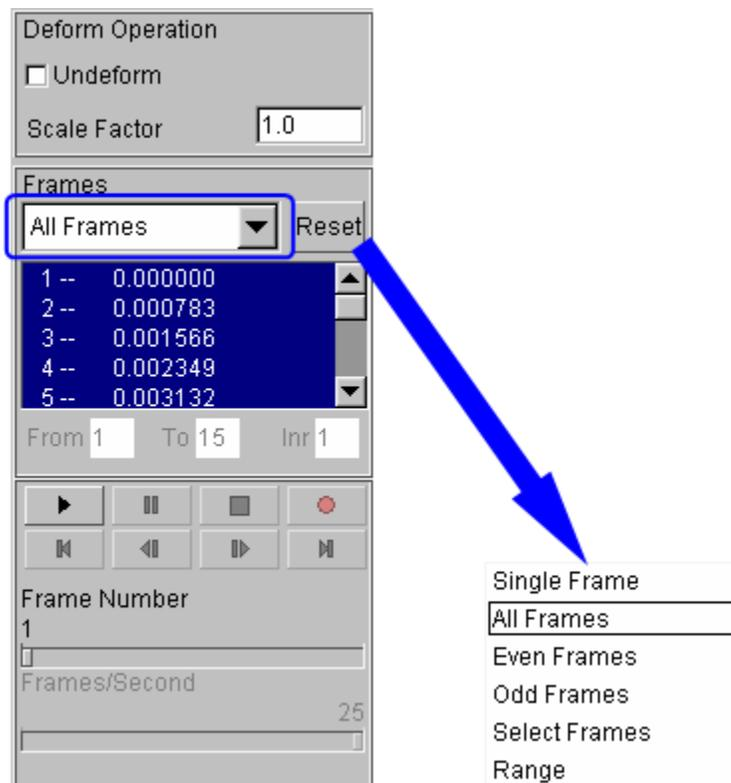

Figure 1.48 Animating deformation dialog box
1. The default **Plot State** is **Deformation**. In the **Frame** dialog, select **All Frames** and click **Play** button to animate the results. See Figure 1.48.